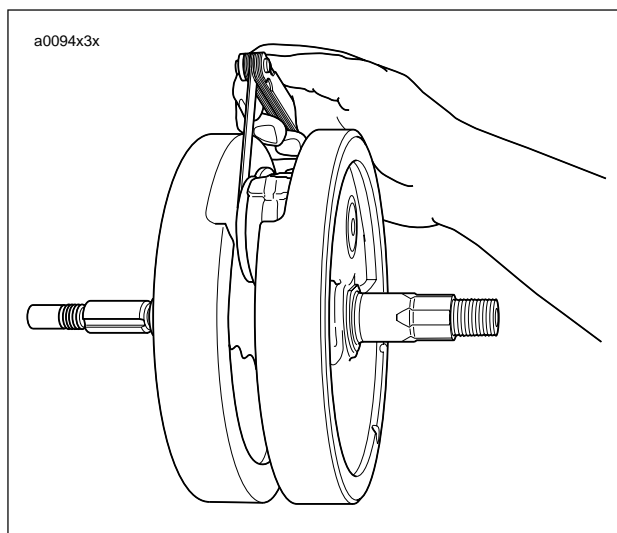

Figure 3-149. Checking Connecting Rod Side Play
1. See Figure 3-149. Check connecting rod side play with a thickness gauge as shown.